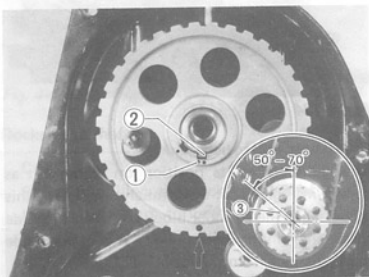

Fig. 4-136
Before installing the pulley as above, check to be sure that crankshaft keyway ③ is in the  $50^{\circ} - 70^{\circ}$  range, as shown in Fig. 4-136.